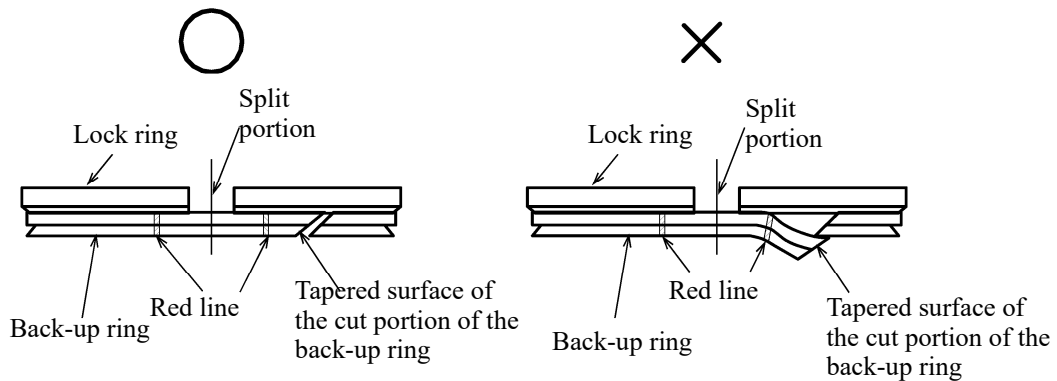

Figure 14 Checking the cut portion of the back-up ring
- ② Make sure that the tapered surfaces of the cut portion of the back-up ring are facing each other. (See Figure 14.)